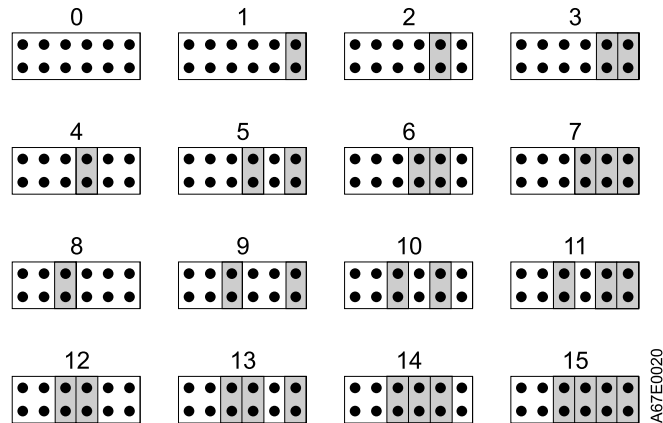

Figure 5. SCSI ID settings on the SCSI ID connector
- \_\_\_ 3. Referring to Figure 5 on page 18, find the ID number that you chose then place jumpers on the connector pins as shown (use a pair of needle-nose pliers to connect the jumpers to the pins that are shaded).
If you are installing the Ultrium 2 Tape Drive into a tape library, you can issue a command from the library to set the drive's SCSI ID through the LDI interface. Make sure that the SCSI ID is set to 15 (see Figure 5). When configured to accept its SCSI ID through the LDI interface, the drive does not respond to SCSI commands until it receives a Set Configuration command through the interface.